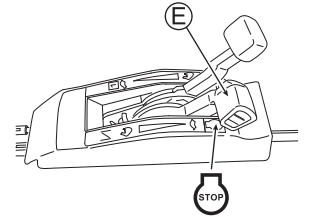

Fig. 14
- 2 Set Throttle lever (E) to "STOP". (See Fig. 14)